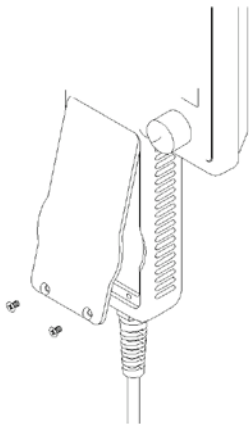

Figure 1
1. Remove the aluminum blank from the M39 pendant by removing the (2) Phillips head screws from the bottom edge and lift the bottom edge out as pictured in figure 1.